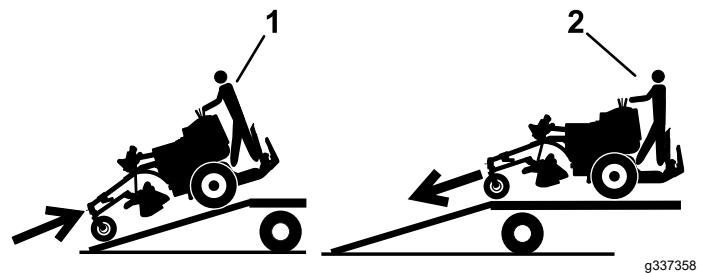

Figure 60
5. Back the machine up the ramp (Figure 60).